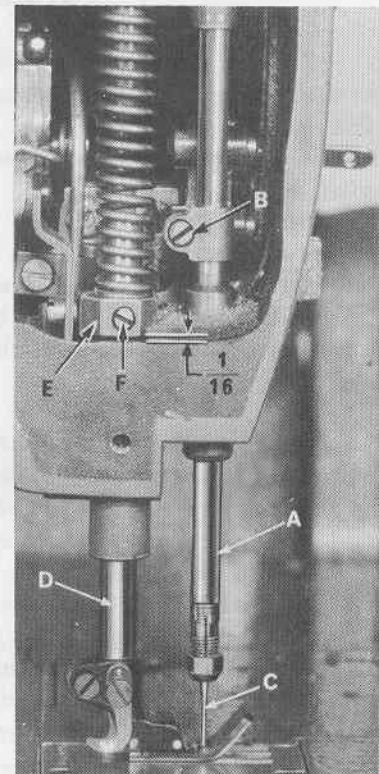
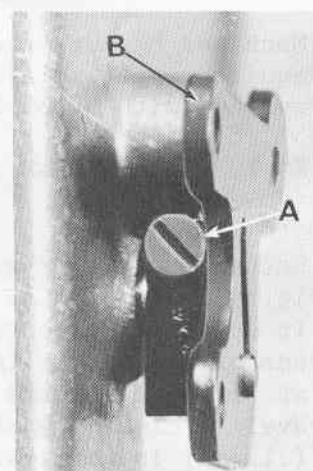

Fig. 4
Fig. 11
Align the needle bar (A, Fig. 4) with the proper test plate, using test pins No. PI40 A, refer to chart. If test plate and test pins are not available, insert a new set of needles (Type and Size as required) and align the needle bar so that needles correspond with the vertical faces of the needle guard. To align needle bar, loosen needle bar clamp screw (B, Fig. 4) and turn bar as required. Tighten clamp screw.
The height of the needle (C, Fig. 4) is corrected when the top of its eye is $\frac{1}{64}$ inch (.40mm) below the underside of the looper, with the looper point flush with the left side of the needle. On Styles 56500 A, B and C the top of the needle eyes should be even with the underside of the looper when the looper point is flush with the left side of the needle. If adjustment is necessary, loosen screw (B) and move needle bar (A) up or down as required and retighten screw. On the two and three needle machines, care should be taken not to disturb the alignment of the needle bar when moving the needle bar either up or down.
If adjustment is needed, loosen tension release lever screw (A, Fig. 11), located at the back of the machine and move tension disc separator as required. Retighten screw. After adjustment there should be no binding at any point.
The height of the presser bar (D, Fig. 4) is set correctly if it is possible to remove the presser foot when the foot lifter lever (B, Fig. 11) is fully depressed. Also there should be approximately 1/16 inch (1.59mm) clearance between lower surface of the presser bar connection and guide (E, Fig. 4) and the bottom surface of the head opening in the bed when the foot lifter lever is released and the presser foot resting on the throat plate, with the feed dog down the throat plate.
If adjustment is needed, turn handwheel in operating direction until the needle bar is in the low position. Loosen screw (F, Fig. 4). Then, while holding presser foot down on the throat plate surface, pry up presser bar connection and guide with a screw driver to obtain the 1/16 inch (1.59mm) setting and tighten screw (F). Check setting by turning handwheel so that needle bar is in its high position and see if presser foot can be removed as mentioned in previous paragraph.